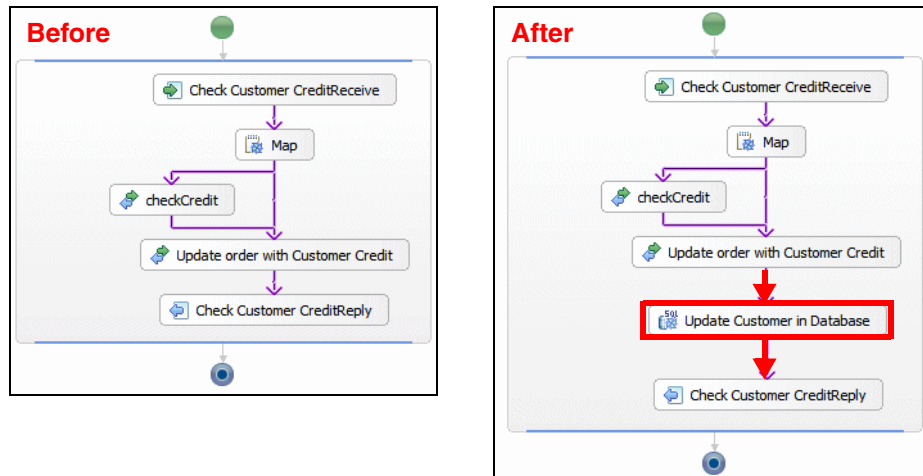

Figure 16-25 Adding an information service to update the customer
- ▶ Open the Check Customer Credit process (Figure 16-25).